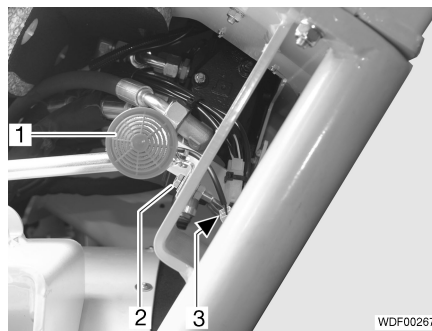

Fig. 528 Audible reverse warning device
- Unplug the plug (Fig. 528,3).
- Unscrew the screw (Fig. 528,2).
- Remove the audible reverse warning device (Fig. 528,1).
- Screw in and tighten the screw (Fig. 528,2) with the washer.
- Connect and secure the plug (Fig. 528,3).